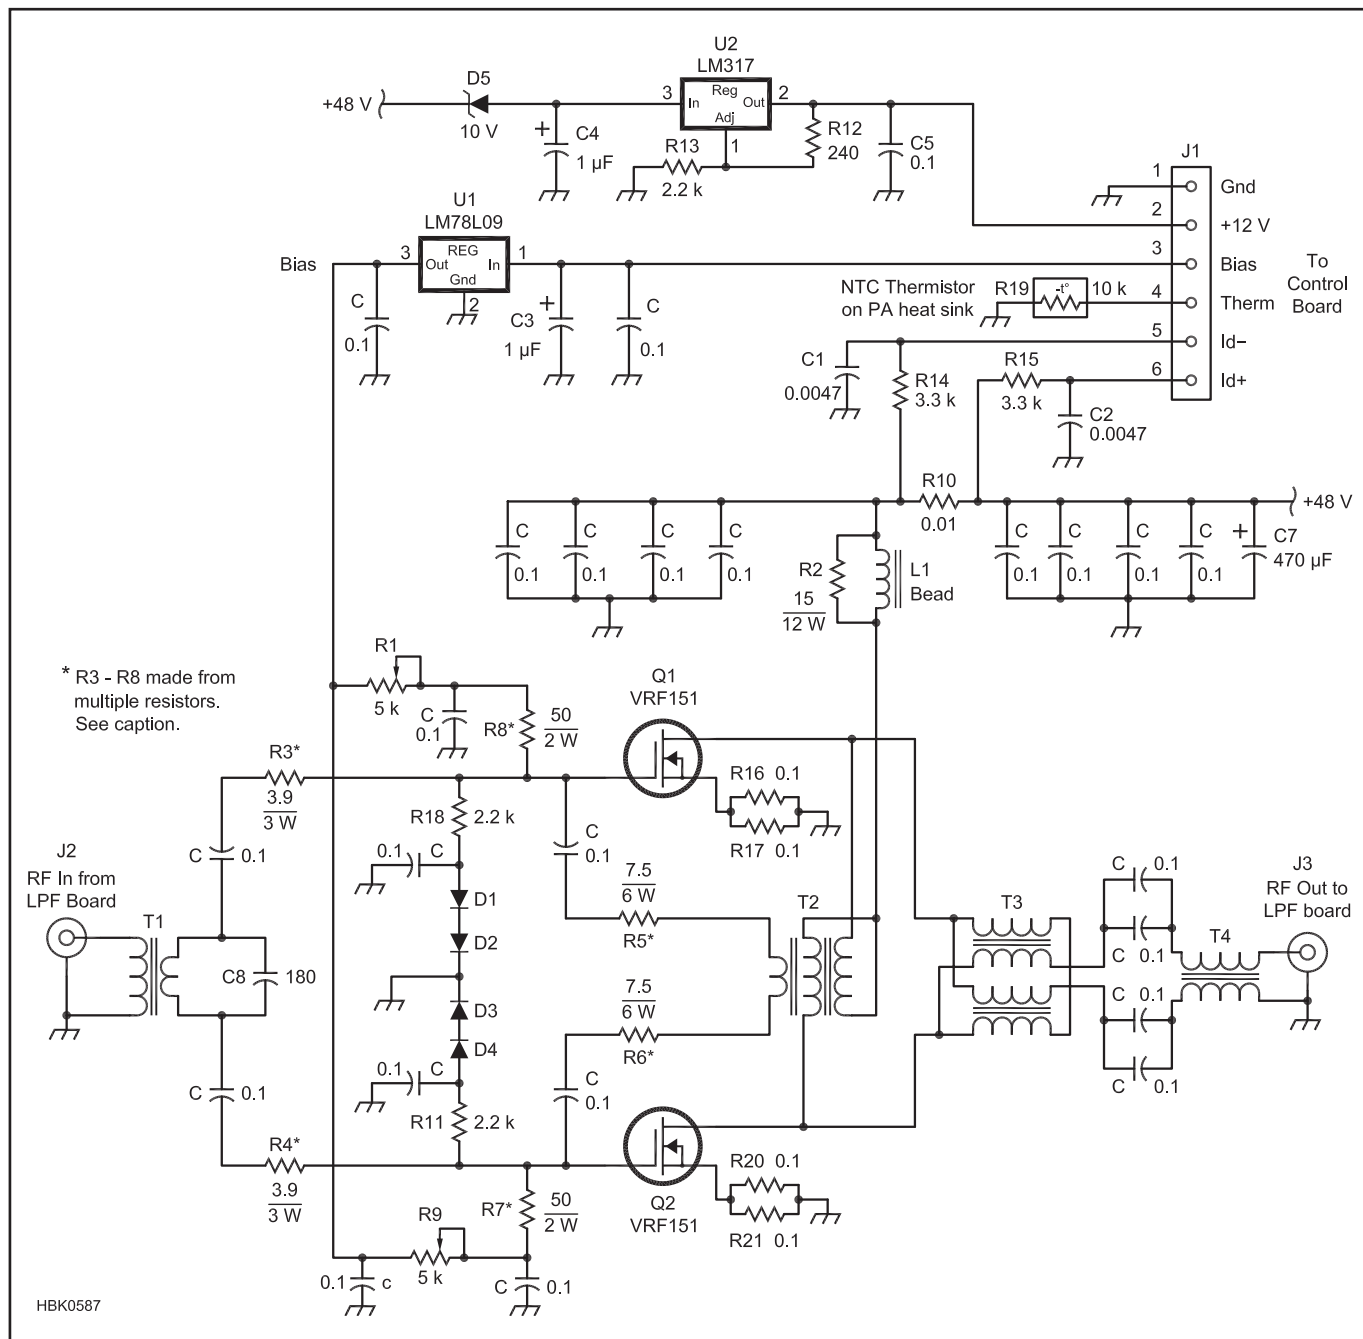

Fig 17.45 — Schematic diagram of the 250-W amplifier PA module. A complete parts list may be found elsewhere on the CD.
Figure 17.45 shows the power amplifier (PA) schematic. Two Microsemi VRF151 MOSFETs are used in this amplifier. The circuit topology is a 4:1 transmission line transformer type, rather than a “tube and sleeve” type common in many PA designs and discussed earlier. This style offers more bandwidth, necessary to provide performance on 6 meters. Typical gain is 15 dB; 10 W drive will easily provide 250 W output with a 48 V supply. There is a lot of latitude in this design. It can even be operated on an unregulated supply. As long as the maximum unloaded voltage does not exceed 65 V, the transistors will not be overstressed. Other devices such as the MRF151, SD2931 or BLF177 would probably also work but have not been tested. They will require a regulated power supply, however.